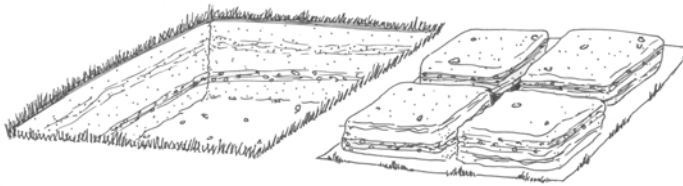

Figure 3: Initial excavation for Drain Gauge G3 Installation.
2. Remove the surface vegetation and place it on the tarp. Try to preserve as much of the root mass as possible. Also, it is important to organize the vegetation you remove so that it can be replaced as closely as possible to its original location(Figure 3)